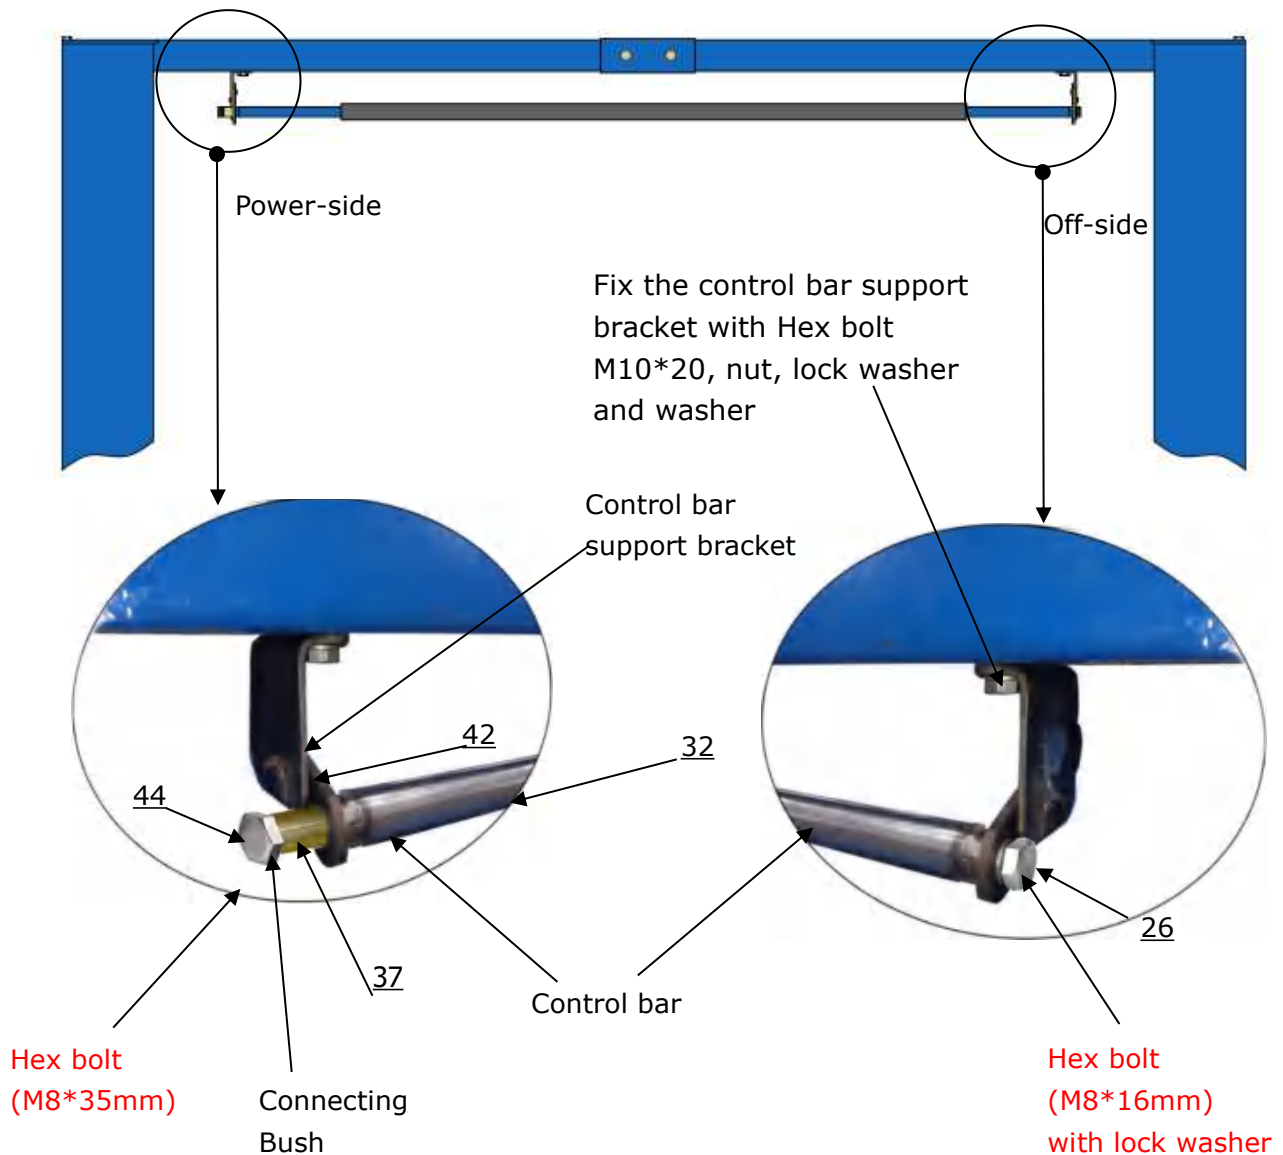

Fig. 25
M. Install control bar and limit switch (See Fig. 25)